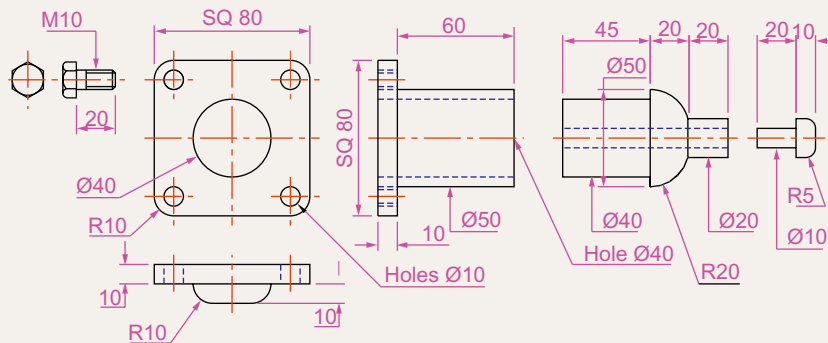
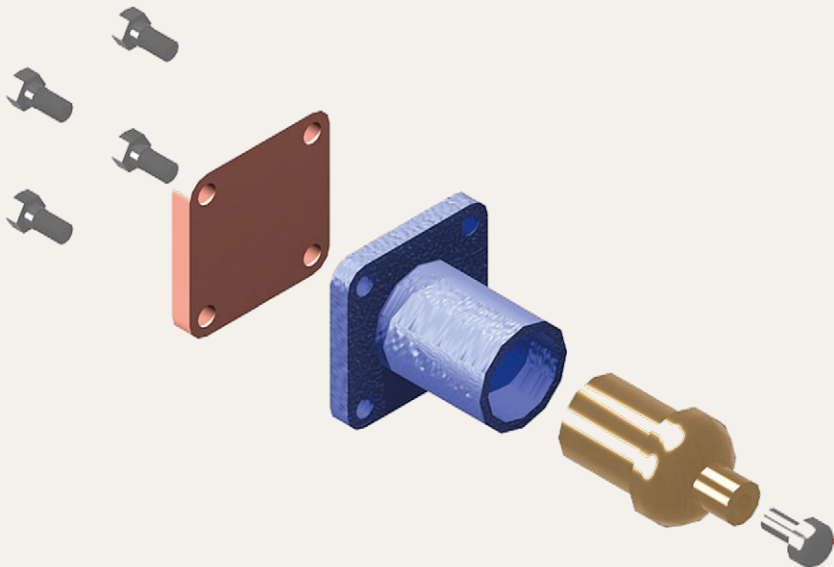

Fig. 19.24 Exercise 4 – details of shapes and sizes
Fig. 19.25 Exercise 5 – an exploded rendered model
4. Construct an assembled 3D model drawing working to the details given in Fig. 19.24. When the 3D model drawing has been constructed disassemble the parts as shown in the given exploded isometric drawing (Fig. 19.25).